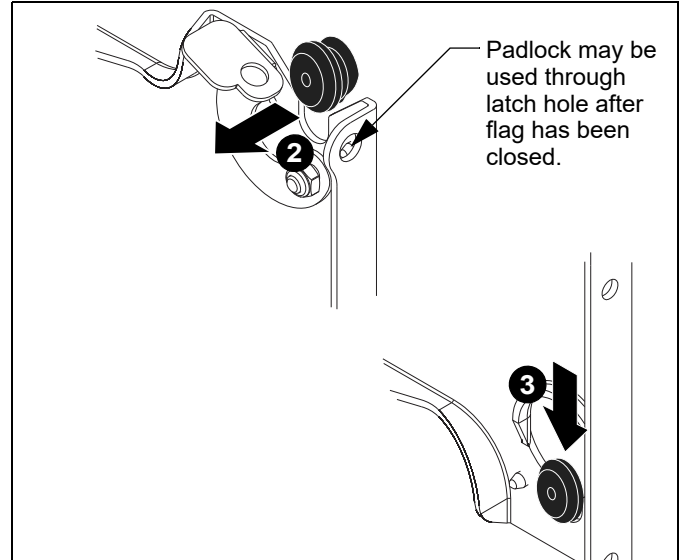

**Figure 8**
1. Open both flags on top mounting holes in faceplate. (See Figure 8)
2. While supporting both sides of display, align four mounting buttons on PSBU with four mounting holes in faceplate. (See Figure 8)
4. Close flags to secure interface to mount. (See Figure 8)